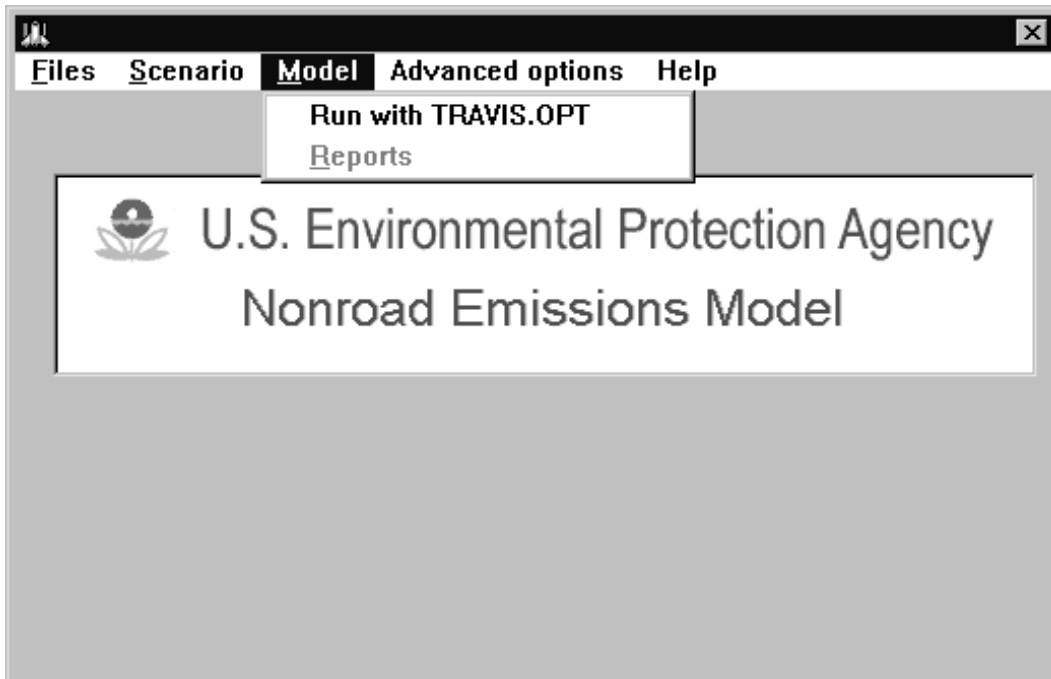

Figure 3-7: Model submenu screen.
4. Use the left button on the mouse to click on **Model**, or press <Alt-M>. A submenu screen appears (Figure 3-7) with two selections: Run (with the option file that you have selected) and Reports.